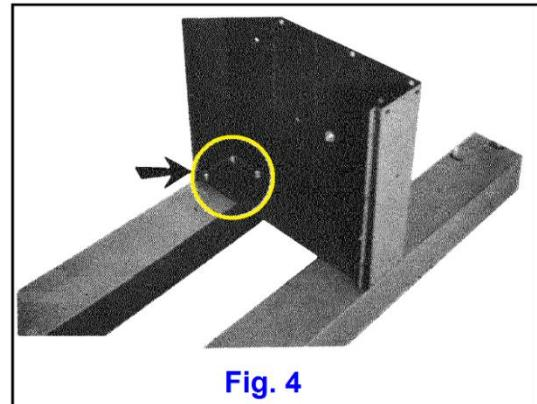

Fig. 4
1. **Attach end frames to base rails** using three 1/4 - 20 x 1/2 hex head bolts with 1/4" nuts and lock washers at each attachment area. (Fig. 4) Leave bolts finger tight until step 7.